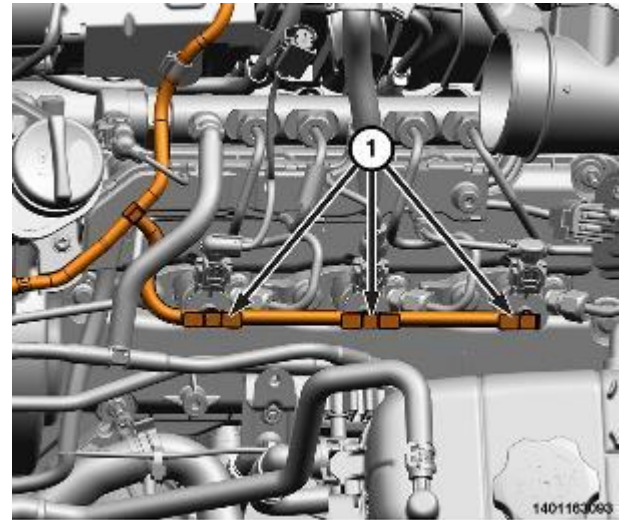

Figure 109 – Fuel Return Hoses
29. Lift up on locking tabs (1) to unlock the locks on the fuel return hoses on the tops of the injectors (Figure 109).
30. Disconnect the fuel return lines by wiggling the hoses free from the fuel injectors (Figure 109).